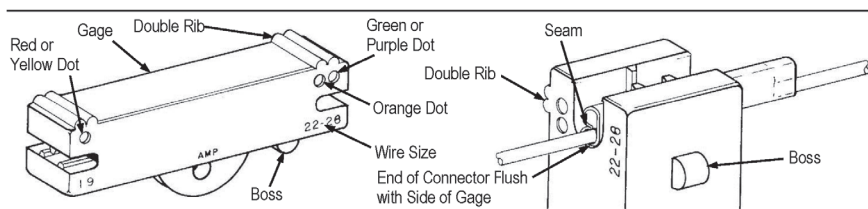

Figure 6
1. Select the proper gage end. The color dots on the end of the gage must match the color of the connector you are gaging. See Figure 6.
2. Place the connector in the gage so the seam in the connector aligns with the double rib on the gage. Position the connector so it is flush with the side of the gage. See Figure 6.